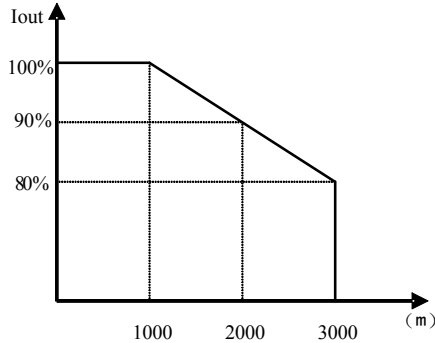

Fig 1-1 Derating drive's output current with altitude
- ◇ Derating must be considered when the drive is installed at high altitude, greater than 1000m. This is because the cooling effect of drive is deteriorated due to the thin air, as shown in Fig1-1 that indicates the relationship between the elevation and rated current of the drive.